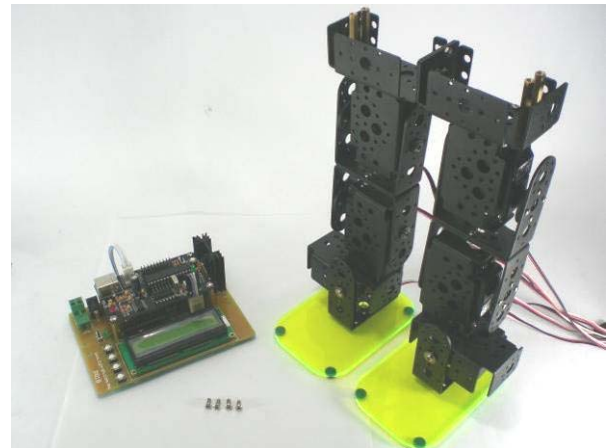

Figure 86
28. Prepare the components as shown in figure 86. The partially completed biped, completed circuit and 4 sets of C screw.